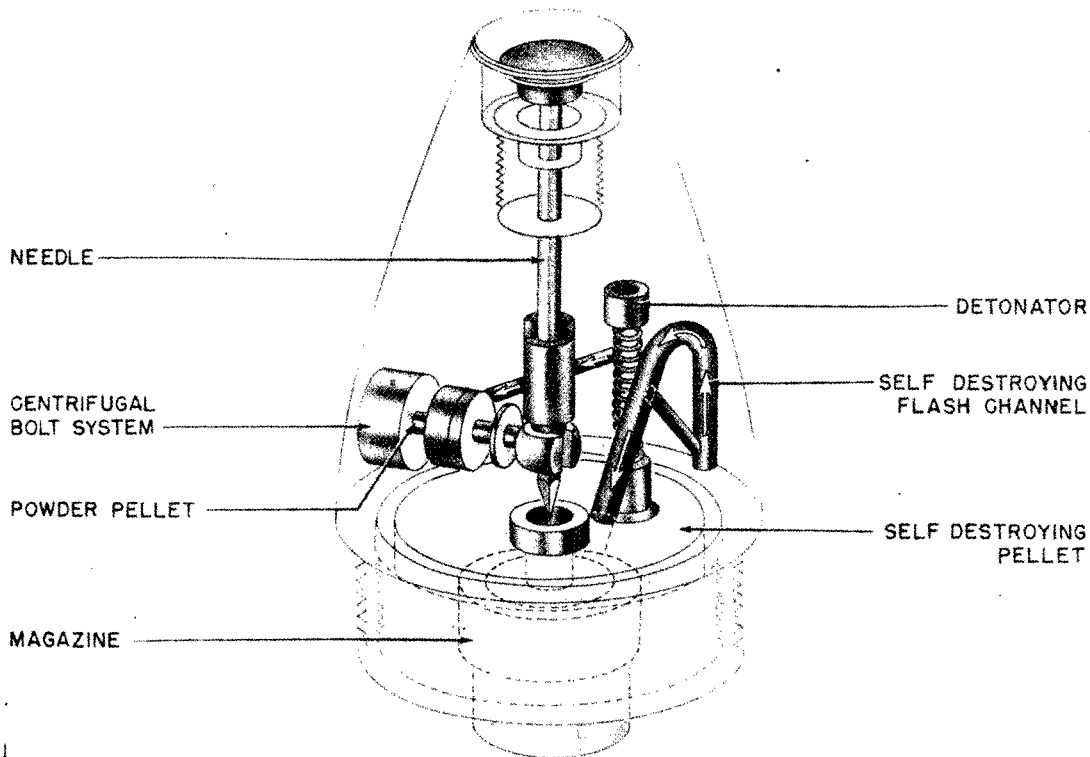

Figure 566—3.7-cm Kopfzunder Zerl. P.
**EMPLOYMENT:** Mechanical nose fuze with self-destroying arrangement for 3.7-cm Pak H. E. shells. (See fig. 566.)